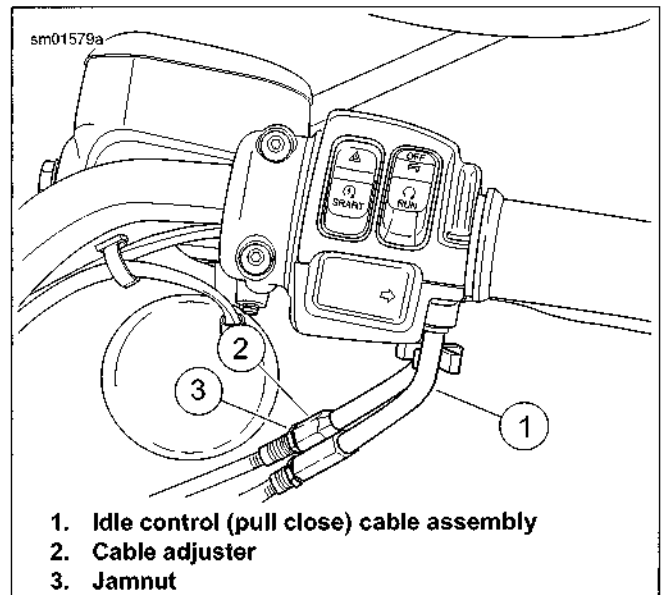

Figure 4-17. Idle Control Cable Adjustment
9. See Figure 4-17. Slide rubber boot off idle control cable assembly (1).
10. Loosen jamnut (3).